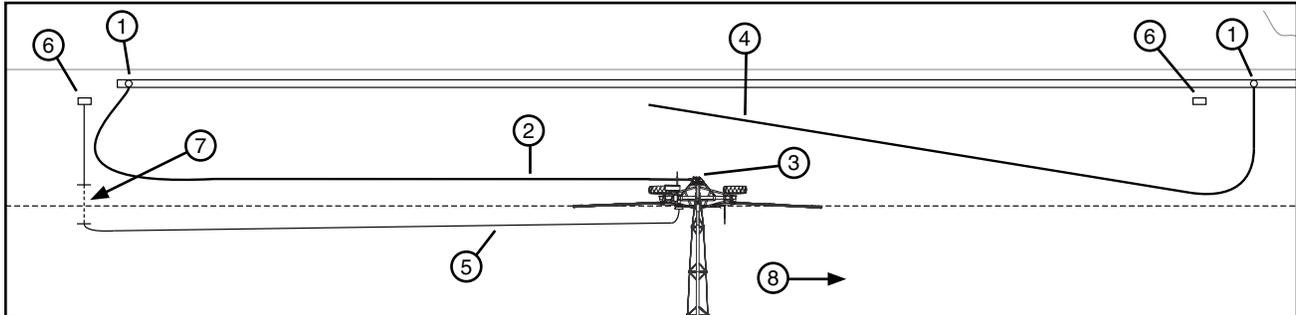

Figure 48-1 1. Shut Off Valve 2. First Hose 3. Swivel Inlet 4. Second hose 5. Electric Cord 6. Power Pedestal 7. Buried Cable 8. Direction of Travel
6. When the machine stops at the end of field/hose stop post, close the water shut off valve for the first hose. See Figure 48-1.